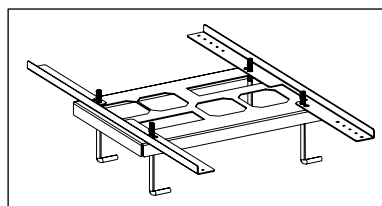

Figure 6
- Pour Pad Template Kits are available. The part numbers are listed under the Ordering Information Section. See the Pour Pad Template Kit documentation for further details. The kit is shown in Figure 6.